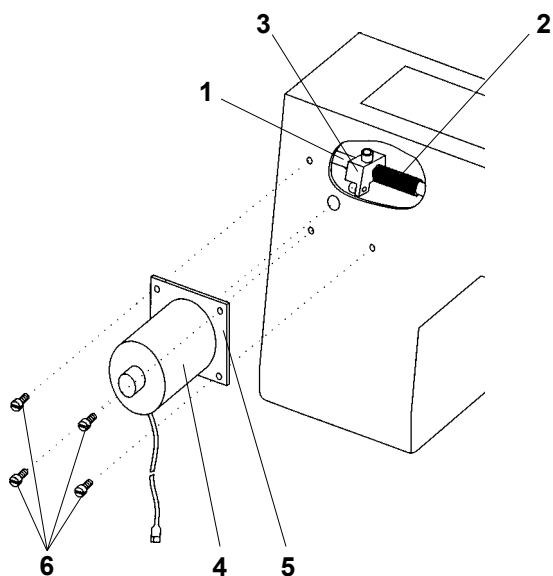

Fig. 9
7. Mounting of the equipment for presser foot lifting using electromagnet (Fig. 9, 10)